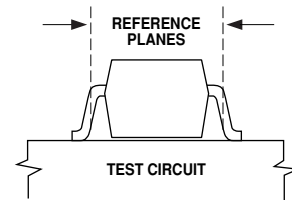

Figure 11. Phase Reference Planes.
- Reference plane per Figure 11 in Applications Information section.
The positions of the reference planes used to specify the S-Parameters and Noise Parameters for this device are shown in Figure 11. As seen in the illustration, the reference planes are located at the point where the package leads contact the test circuit.